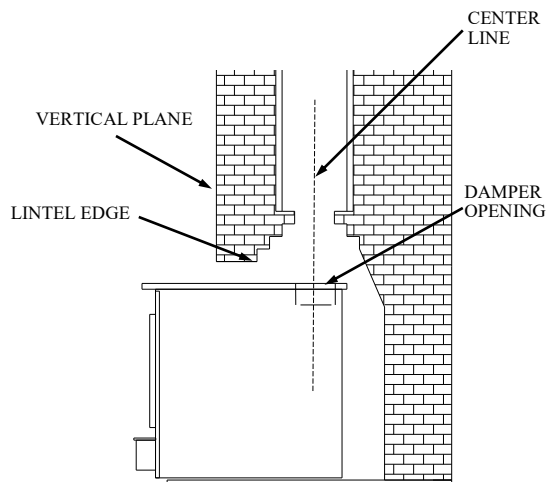

FIGURE 6 POSITIONING
1. The front of damper opening must be positioned **BEHIND** back edge of lintel to ensure proper draft. (See Figure 6)